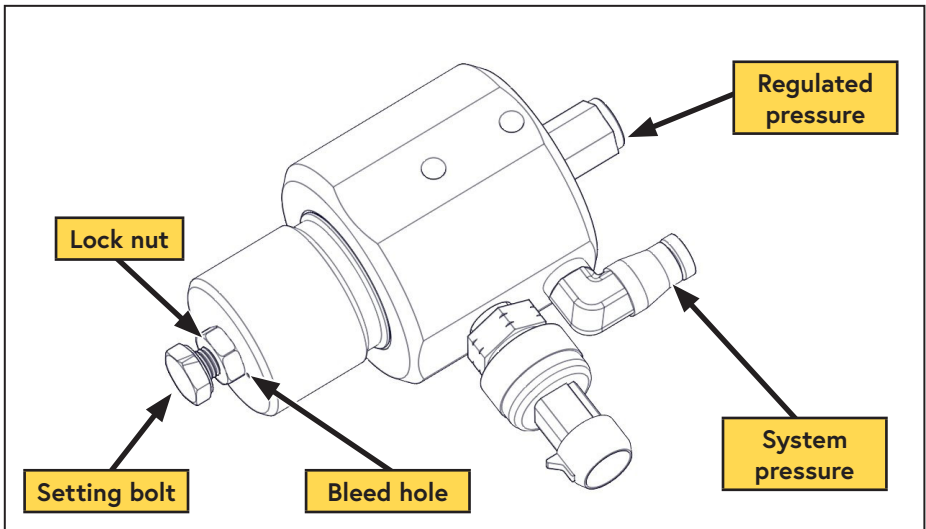

Figure 86 — Air regulator
- ☐ Loosen the lock nut on the regulator (Figure 86).